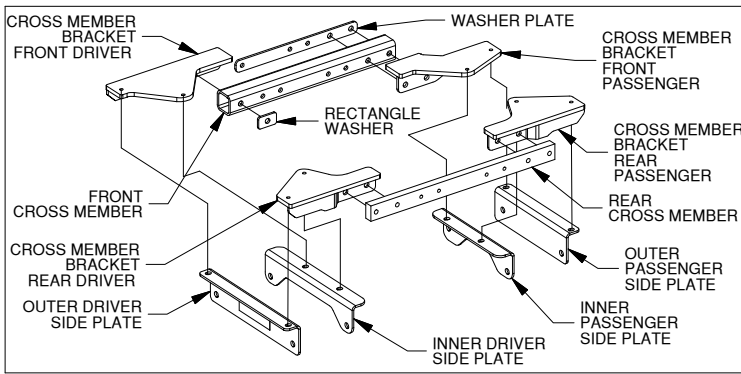
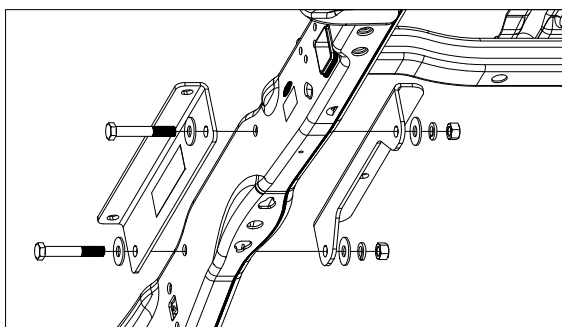
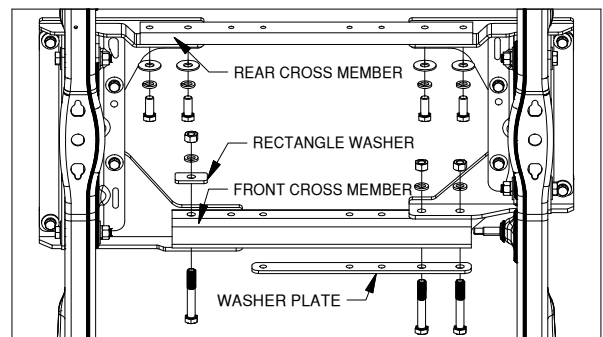

Figure B1: Side plates and Mounting Kit Exploded View
Figure B2: Driver Side Side plates
Figure B5: Bottom of truck frame looking up from the back of truck towards the cab
- 2. Install Side Plates.** Locate the outer and if needed the inner side plates, see figure B1. Install the side plates as shown in Figures B2 & B3, so that there is a side plate on the inside and outside of each frame member. Attach the side plates to the frame using 5/8" x 4" bolts, two flat washers, lock washer, and nut, as shown in Figure B2. Fasten hardware until the side plates are flush against frame.
- 3. Install Cross Member Brackets.** Locate the four cross member brackets as shown in Figure B1, and the eight, 1/2" bolts with an added thread locker. Attach these brackets to the inner and outer side plates using these bolts. If the bolts with thread locker are cap screws without a flanged head, also add a flat and lock washer, see Figures B4.
- 4. Install Front Cross Member.** Locate the front cross member shown in Figure B1. Attach the front cross member, washer plate and two 5/8" X 4" bolts to the passenger side cross member bracket, see Figure B6. Next, attach the cross member to the driver side cross member bracket with 5/8" x 4" bolt, rectangle washer, lock washer and nut, see Figure B5.
- 5. Install Rear Cross Member.** Locate the rear cross member shown in Figure B1. Attach the rear cross member to the cross member brackets as shown in Figure B6 with 5/8" x 1-1/2" bolts, flat washers, and nuts.